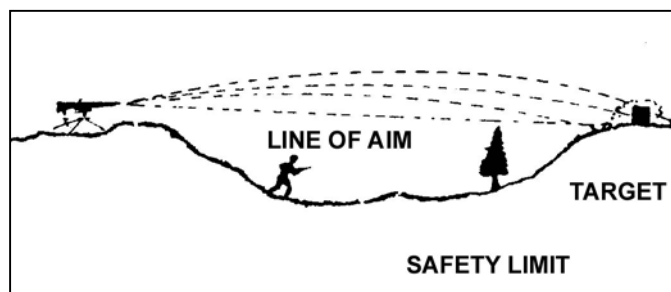

Figure 5-18. Overhead fire safety limit.
b. The squad leader normally controls overhead fire. He lifts or shifts the fire when the friendly soldiers reach an imaginary line, parallel to the target, where further fire would cause casualties to friendly soldiers. This imaginary line is called the "safety limit." The leader of the friendly soldiers may direct lifting of fire by prearranged signals transmitted by radio, wire, or visual means. The safety limit can be determined by observing the fire or by using the gunner's rule (Figure 5-18).